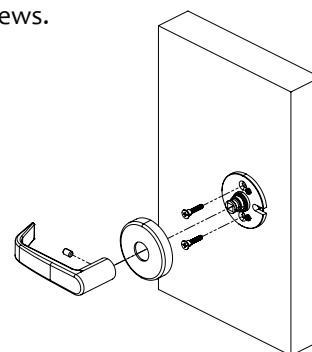

Figure 14
- a Install single dummy trim B10-04 (Figure 14)
- Install inside Spring housing assembly using (2) PH Flat #8-32+#8 wood screws.